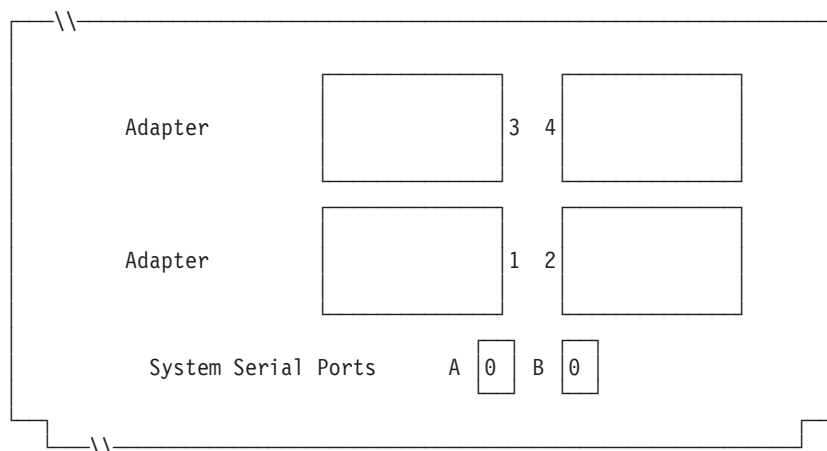

Figure 84. Right side of rear of 4693-5x1 or 4693-7x1 Point-of-Sale terminal
6. If an asynchronous port is used by terminal applications, write the port number on Figure 84. Use a 0 if a port is not used by the terminal. Valid port numbers are 1, 2, 3, 4.